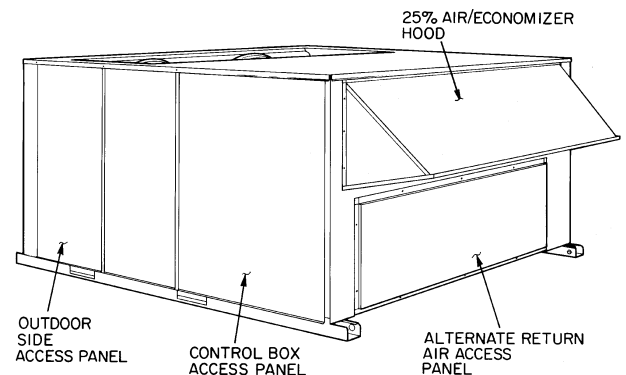
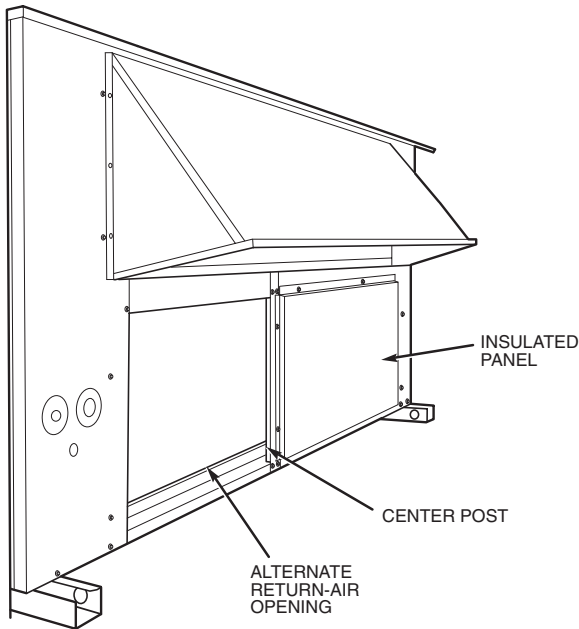

Fig. 2 — Typical Base Unit
Fig. 3 — Panel and Center Post Installation
2. Disconnect power to unit. Remove the control box access panel, main control box cover, and alternate return-air access panel (see Fig. 2). Using screws from alternate return-air access panel, install center post and insulated panel as shown in Fig. 3.
4. Position power exhaust box (see Fig. 5) next to alternate return-air opening (see Fig. 3) and install using screws provided.